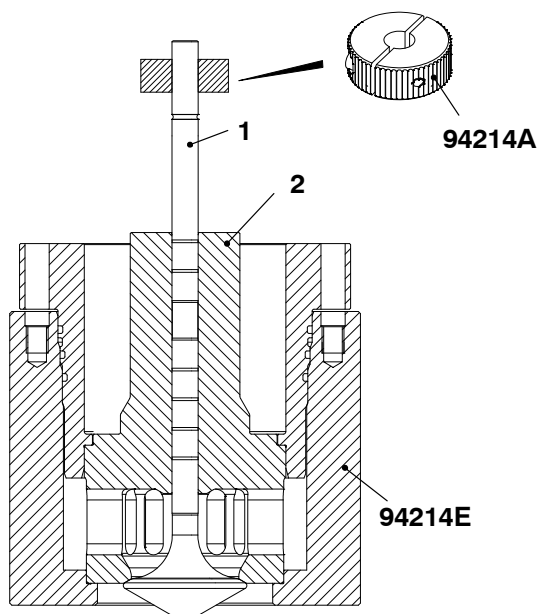

Fig. 9
- 2) Attach the knurled nut (94214A, Fig. 9) to the valve spindle as shown.
- 3) Apply lube oil to the valve spindle (1).
- 4) Put the valve spindle (1) into the valve guide (2).